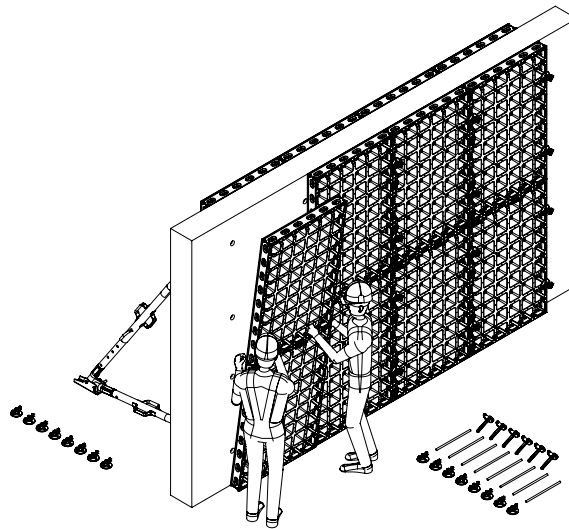

Fig. B1.09
3. At the vertical joint, loosen ties, DUO couplers or other panel connections that have to be removed in order to dismantle a panel unit. (Fig. B1.09)